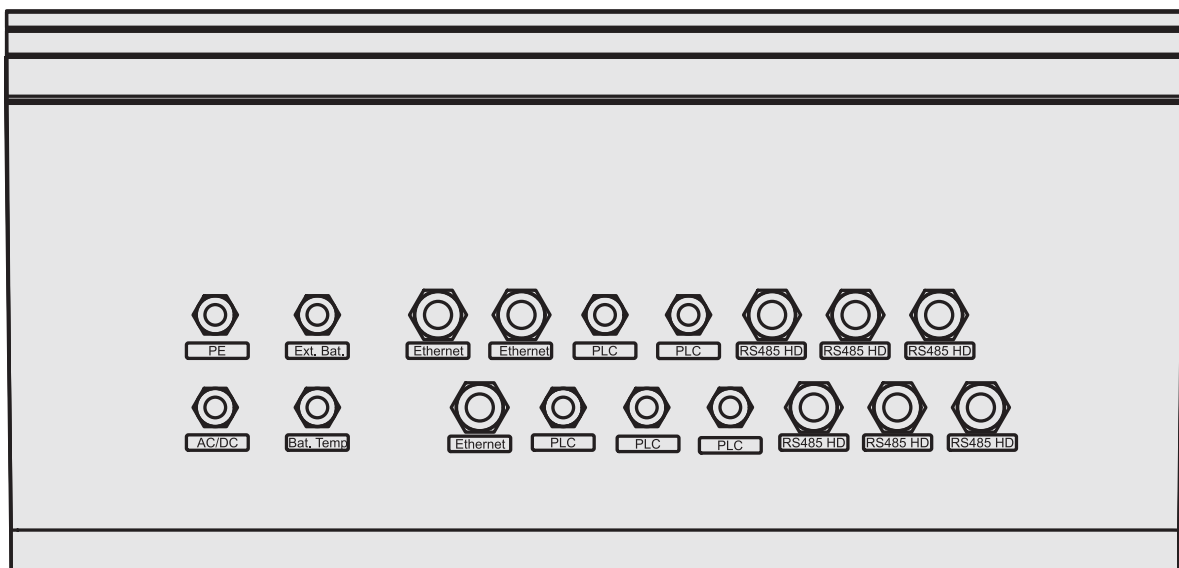

Fig 9 Connectors on the bottom side
1. Lead the Ethernet cable(s) through the cable gland(s) marked ETHERNET (Fig. 9 on p. 12) into the cabinet.
1. Lead the cables through the applicable cable glands (Fig. 9 on p. 12) into the housing.